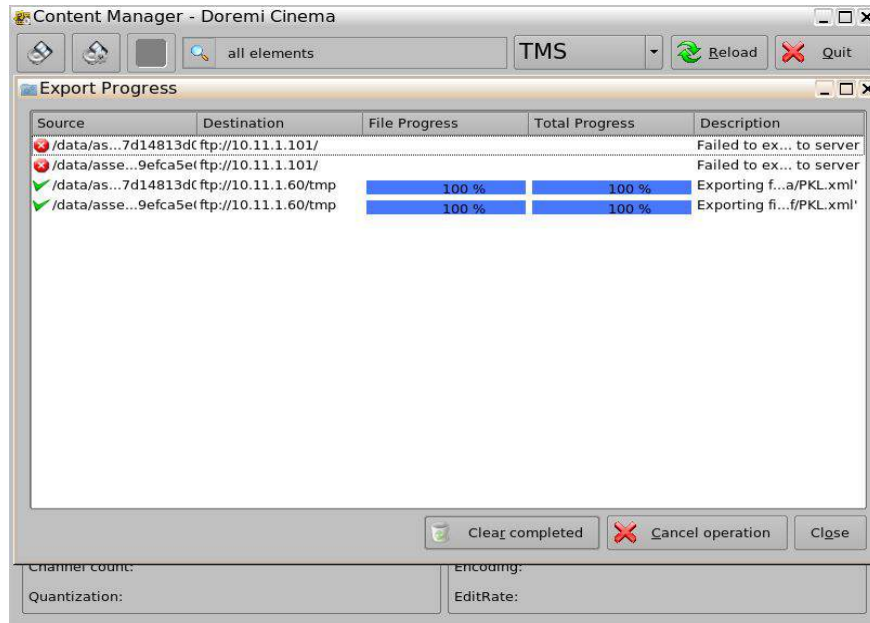

Figure 117: Content Manager – Export Progress Window
- Click on the Progress button on the Export window (Figure 117).